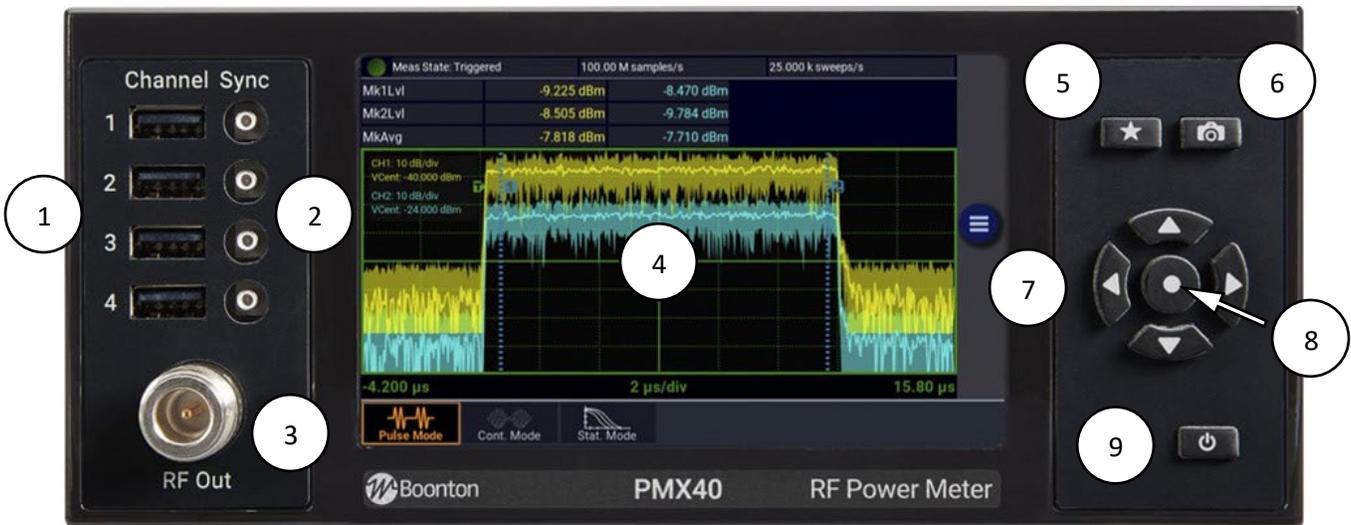
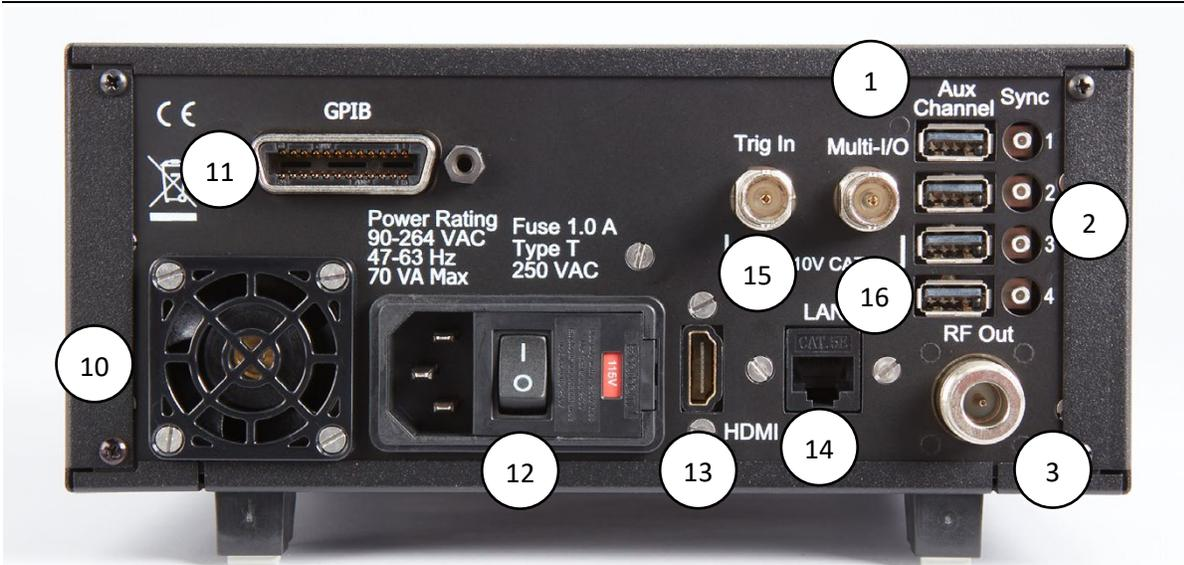

Figure 3-1. PMX40 RF Power Meter - Front Panel
Figure 3-2. PMX40 RF Power Meter - Rear Panel
The PMX40 is equipped with a switching power supply that provides automatic operation from a 90 to 264 VAC, 47 to 63 Hz single-phase, AC power source. Maximum power consumption is 70 VA. Connect the power cord supplied with the instrument to the power receptacle on the rear panel. See Figure 3-2.
Figures 3-1 and 3-2 illustrate the controls, indicators, and connectors on the front and rear panels, respectively, of the standard instrument. Refer to Table 3-1 for a description of each of the illustrated items. The function and operation of all controls, indicators, and connectors are the same on the standard and optional models.
1. If the main power is off, press the power switch located on the rear panel. See Figure 3-2. Press the On/Standby key. See Figure 3-1. After a self-check, the instrument will execute the application program. There will be some momentary dialogs indicating application initialization and channel updating. After the last dialog the main screen will be on the display.